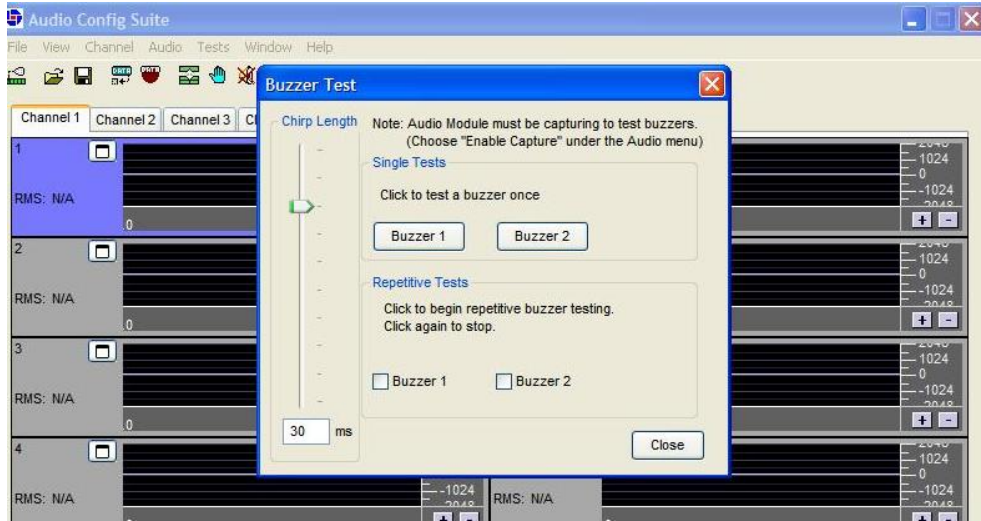

Figure 8-26 - Select Buzzer.
2. In the Buzzer Tests window choose a single buzzer test selection OR Repetitive Buzzer Test selections as per Figure 8-26 - Select Buzzer.